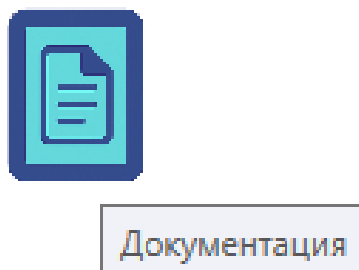

Figure 8 – "Documentation" Button
a)The "Documentation" button (Figure 8) opens the corresponding "Documentation" window.